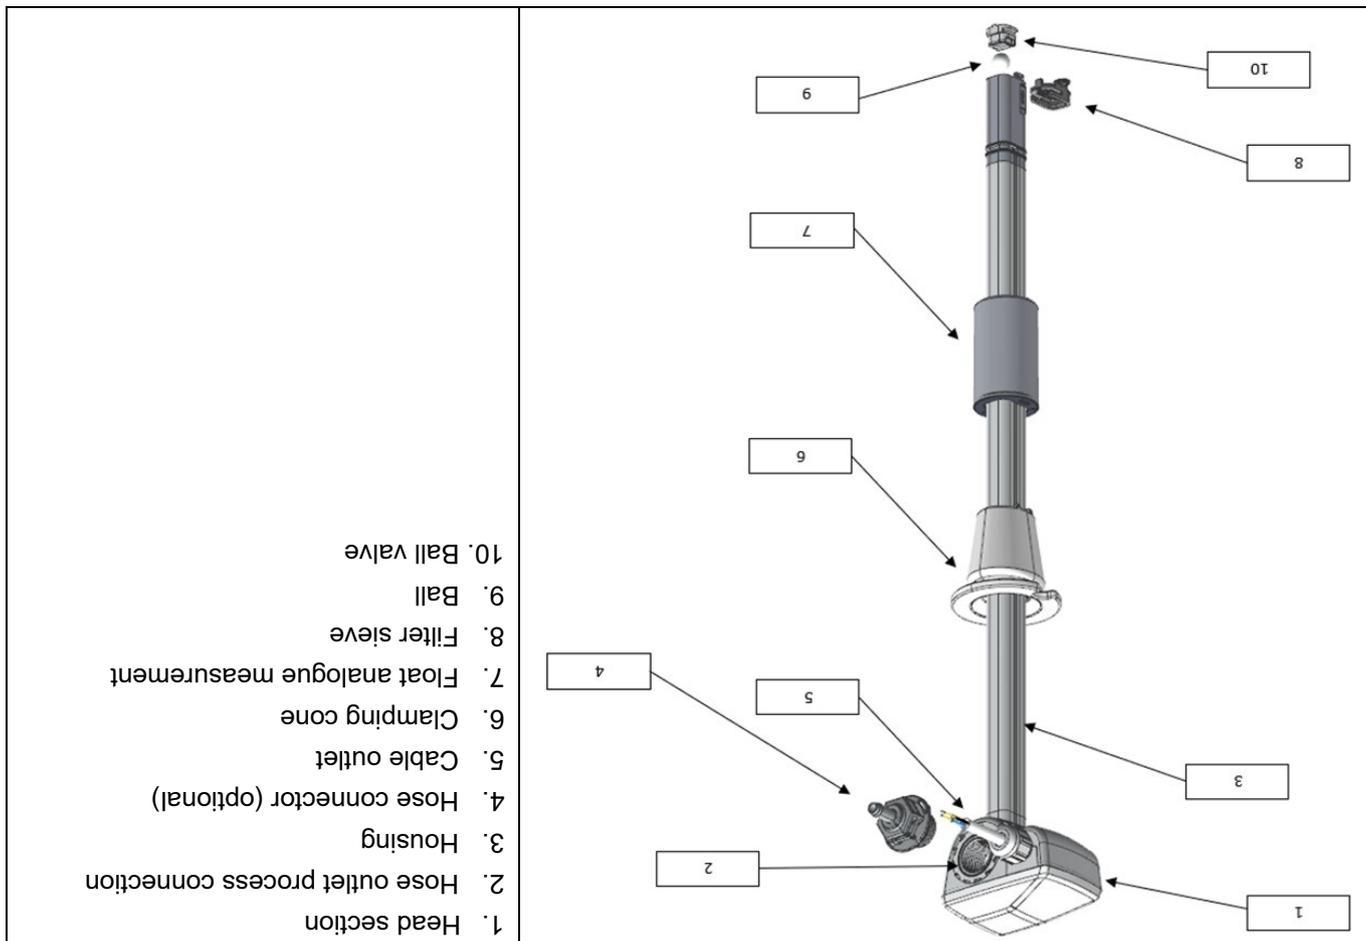
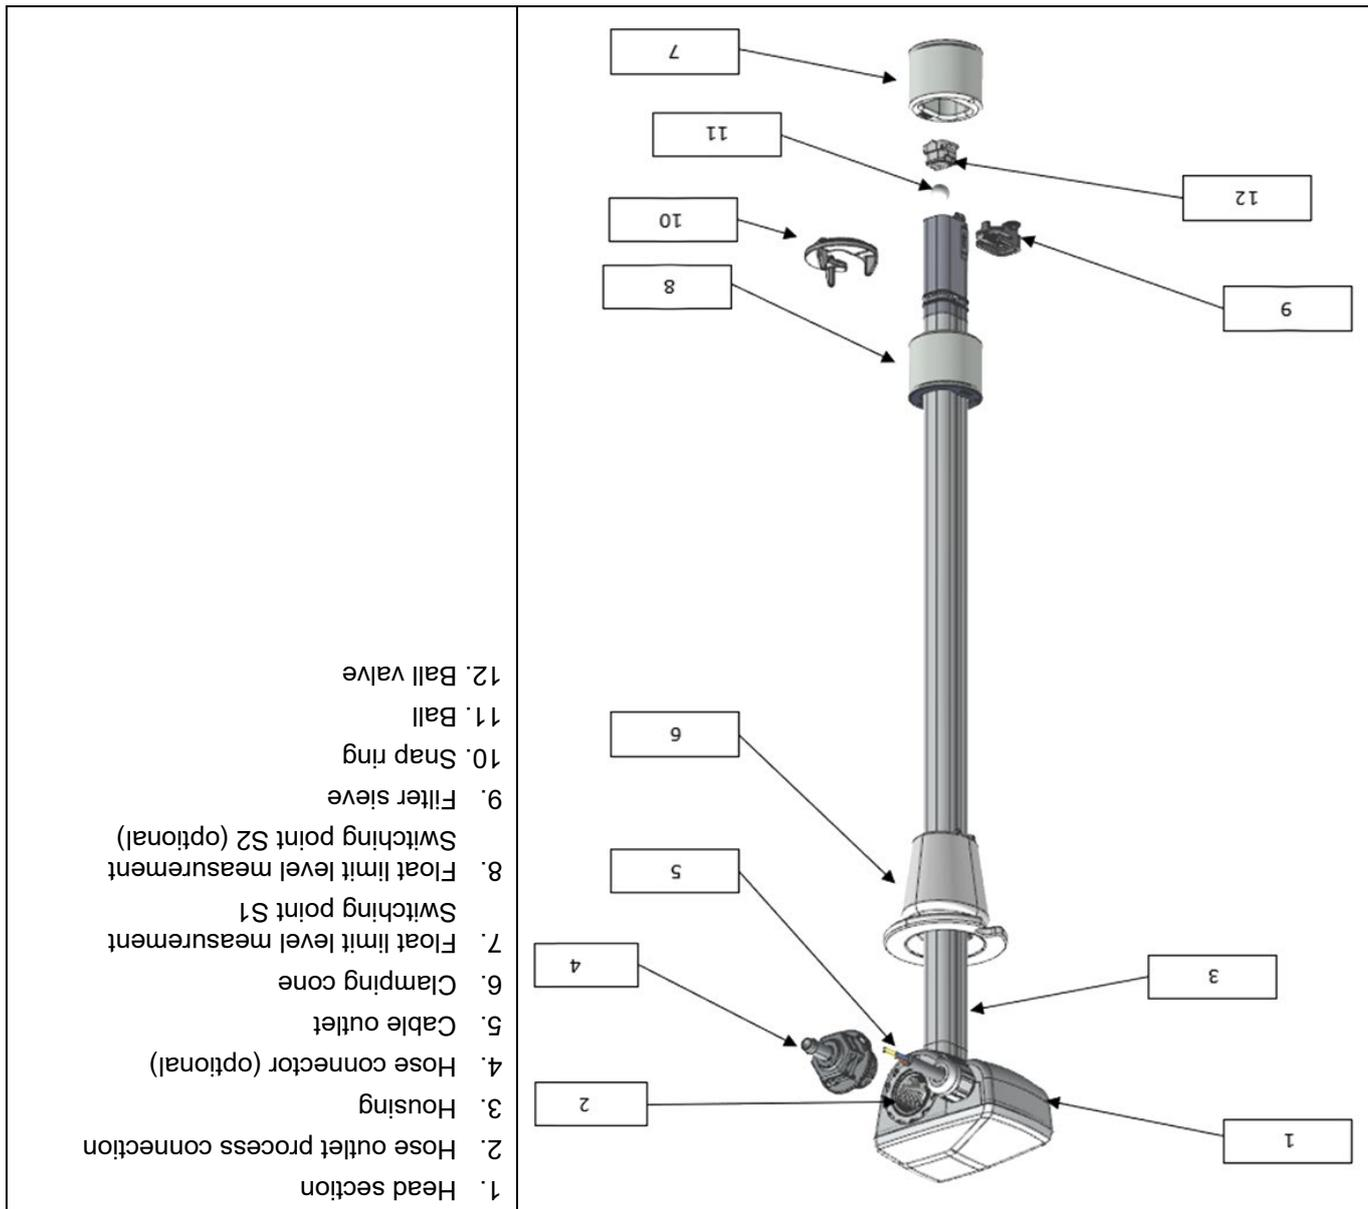

Figure 5
Figure 4
- ▶ Hold the elolance by the head section (Figure 4 and Figure 5, item 1) and push it into the desired position (height adjustment).
- ▶ Hold the elolance by the head section (Figure 4 and Figure 5, item 1) and screw the container lid tightly to the container thread.
- ▶ Insert the hose connector (Figure 4 and Figure 5, item 4) into the G3/8" thread. Observe the tightening torque of 2.3 Nm -0.2 Nm/+0.7 Nm to ensure leak-tightness.
The eiolance is connected to a hose (not included in the scope of delivery) and the downstream system (e.g. dosing pump) at the head section by means of a hose connector (Figure 4 and Figure 5, item 4).
elolance SL2R variants have a continuous level measurement with an extended measuring range, which is detected by means of a float (Figure 5, item 7) and reed grid. The integrated filter sieve (Figure 4, item 9 and Figure 5, item 8) ensures that the elolance and the attached system are protected from coarse foreign bodies and impurities. The ball leakage brake consists of a freely movable ball (Figure 4, item 11 and Figure 5, item 9) and the ball valve (Figure 4, item 12 and Figure 5, item 10). The ball leakage brake prevents larger quantities from discharging after the elolance has been removed from the container.
The float (Figure 4, item 7 and item 8 as well as Figure 5, item 7) with integrated magnet moves up and down depending on the fill level. This activates a reed switch. Depending on the switching function of the reed switch, the signal is output either on a rising or falling level. elolance SL2D1 variants have a float (Figure 4, item 7), e.g. for the empty message of a container. elolance SL2D2 variants have 2 floats (Figure 4, item 7 and item 8), e.g. for the pre-emptive and empty signal of a container.